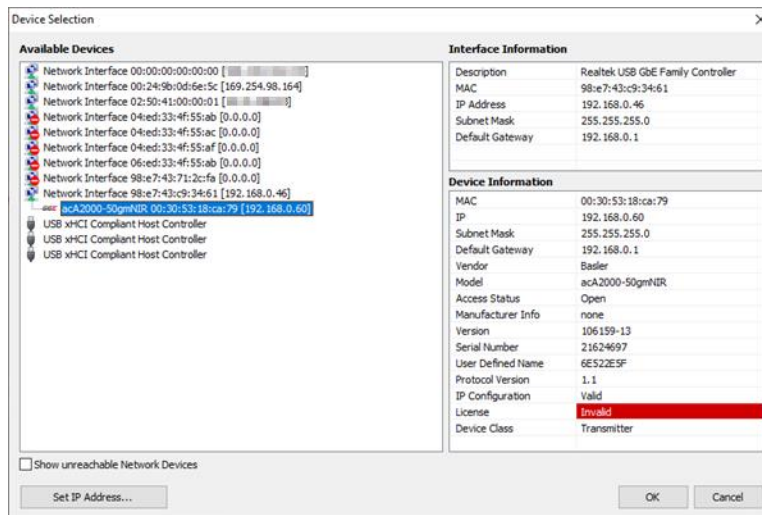

Figure 117: Selecting a Device in eBUS Player
2. The **Device Selection** dialog displays (Figure 117).